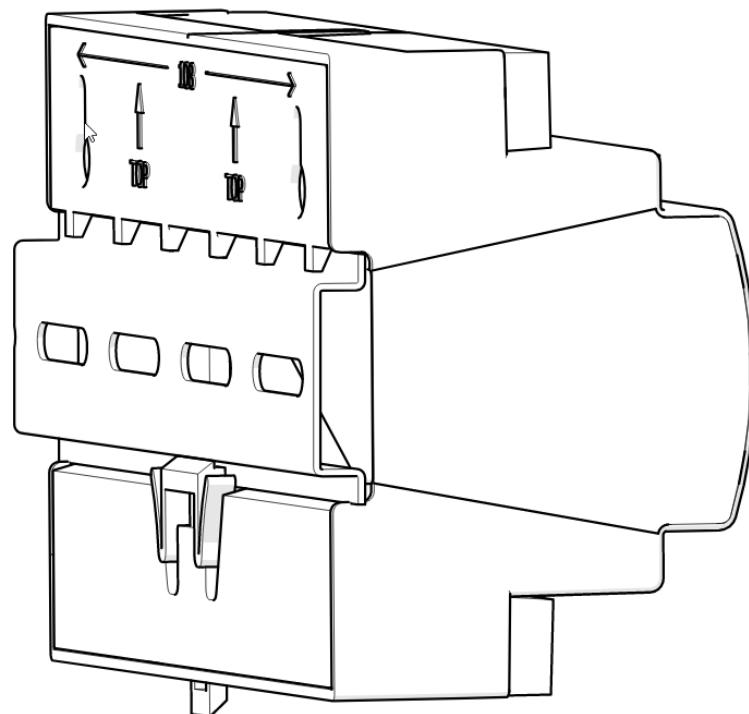

Figure 8. Lock the unit on the DIN rail
4. Release the retention clip to lock the unit on the DIN rail. Refer Figure 8.